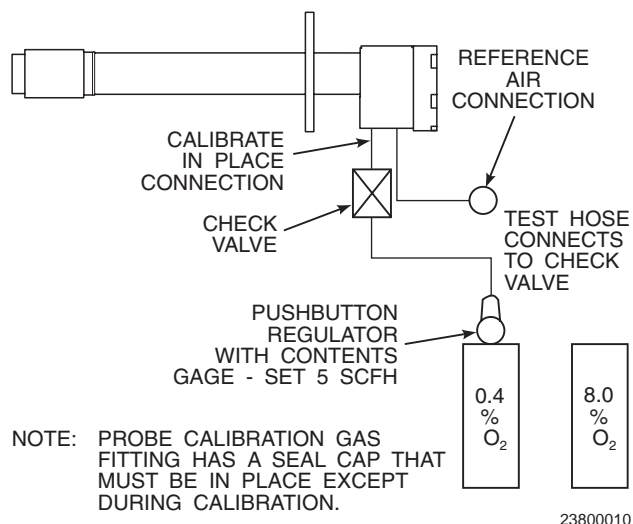

Figure 3-4. Typical Portable Test Calibration Setup
- 1 A typical portable test calibration setup is shown in Figure 3-4. For Manual (semiautomatic) calibration, remove cap plug from the calibrate-in-place fitting. The cap plug must be retained to seal this fitting after calibration is complete; failure to do so may render the probe useless if the system pressure is slightly negative. The reference gas should be flowing as in normal operation.